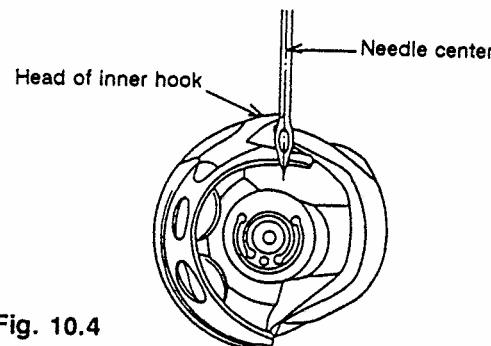

Fig. 10.4
- (1) Use an Allen key to loosen the driver set screw. (A hole to insert the Allen key is provided under the cylinder head.)
- (2) Adjust the driver so that the head of the inner hook is aligned with the needle center when the pulley is turned and when timing mark C (or D) is pointing to the bottom end of the needle bar metal. (See Fig. 10.4)